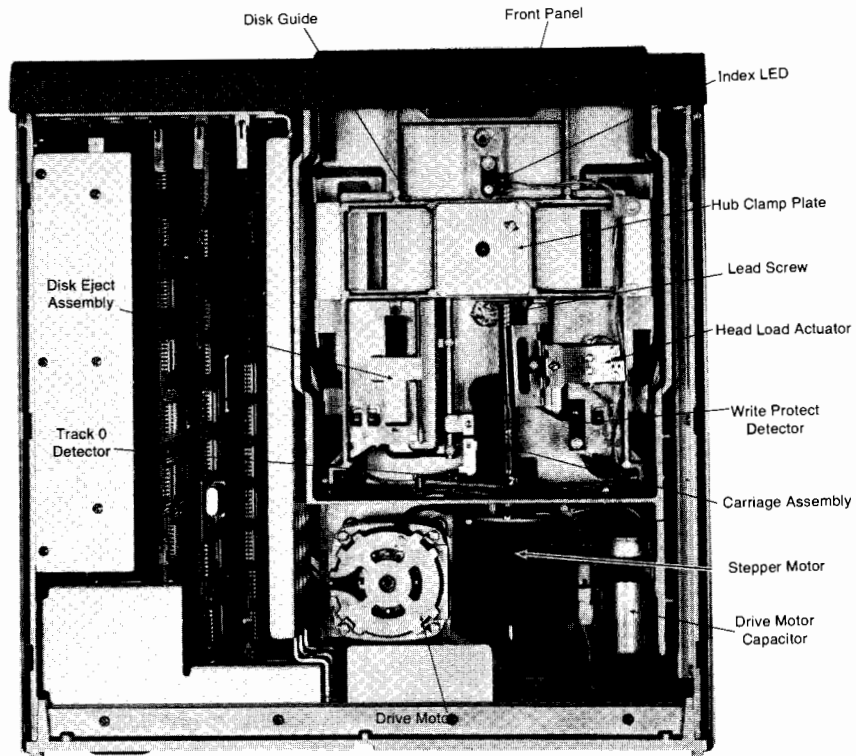

Figure 3-3. Drive Top
Figures 3-3 and 3-4 show the components on the top and bottom of the drive assembly.
The drive motor and capacitor are one assembly (see Figure 3-3).
4. Remove the screw holding the detector bracket and remove the detector (see Figure 3-3).